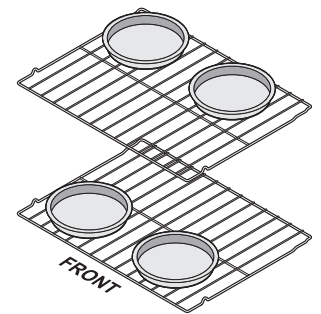

Figure 4: Pan spacing
- When baking using two oven racks, position cookware as shown in Figure 4. Allow at least 2 inches (5 cm) of space between cookware for proper air circulation.